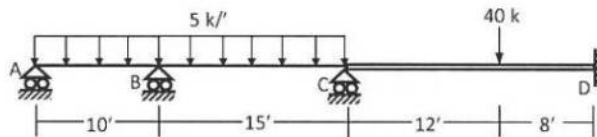

Fig. 8
8. Use the Energy Method to calculate the plastic moment M_p needed to prevent the development of plastic hinge mechanism in the beam ABCD loaded as shown in Fig. 8 [Given, $M_{p(AB)} = M_{p(BC)} = M_p$, $M_{p(CD)} = 2M_p$].